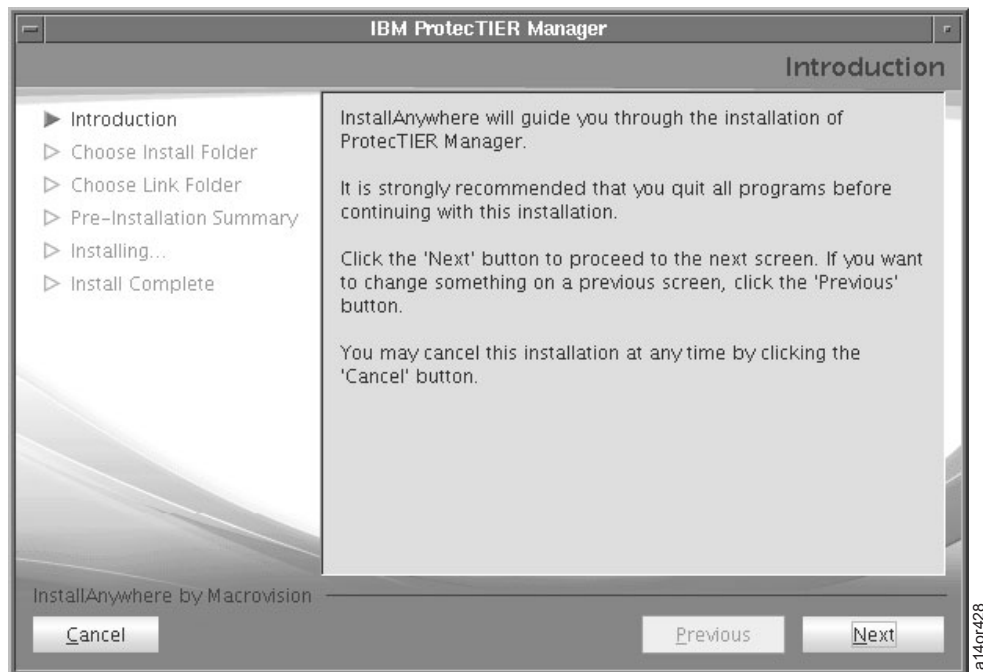

Figure 2-92. Introduction Screen
7. You will see the Figure 2-92 on page 2-59. Click **Next**.